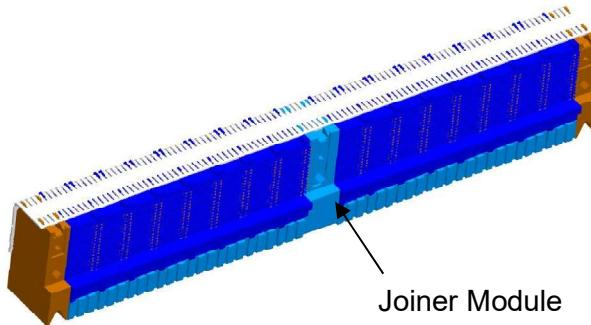

Figure 7: Daughtercard Connector Configuration with Joiner
- 2.5.2 If a connector needs to be longer than 304.8 mm (approx. 12"), then the connector must be divided into segments of 304.8 mm or less and connected using a Joiner Module. The longest individual stiffener length will be 304.8mm long with an affective usable length of 303.5 mm. Please consult your Amphenol TCS Application Engineer for connectors over 508 mm (20"). Figure 7 shows a connector configuration with a joiner module.